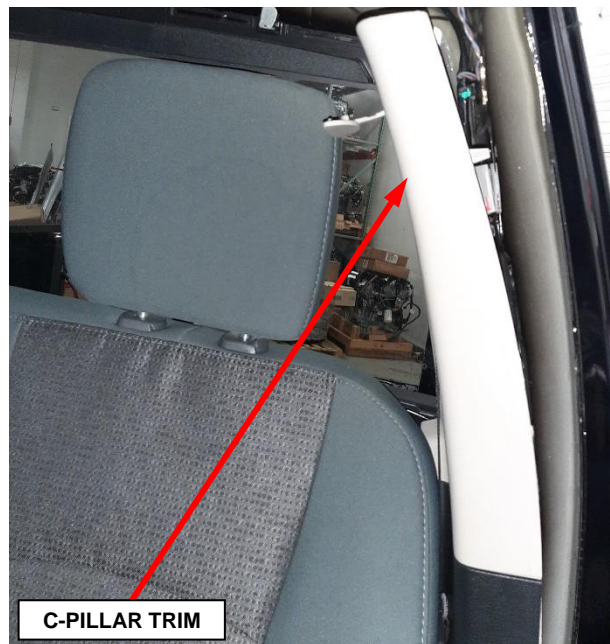

Figure 24 – C-Pillar Upper Trim Panel
15. Release the retaining clips and tilt the top of the C-pillar upper trim panel inward (Figure 24).
45. Position the upper trim to the C-pillar then engage the retaining clips (Figure 24).